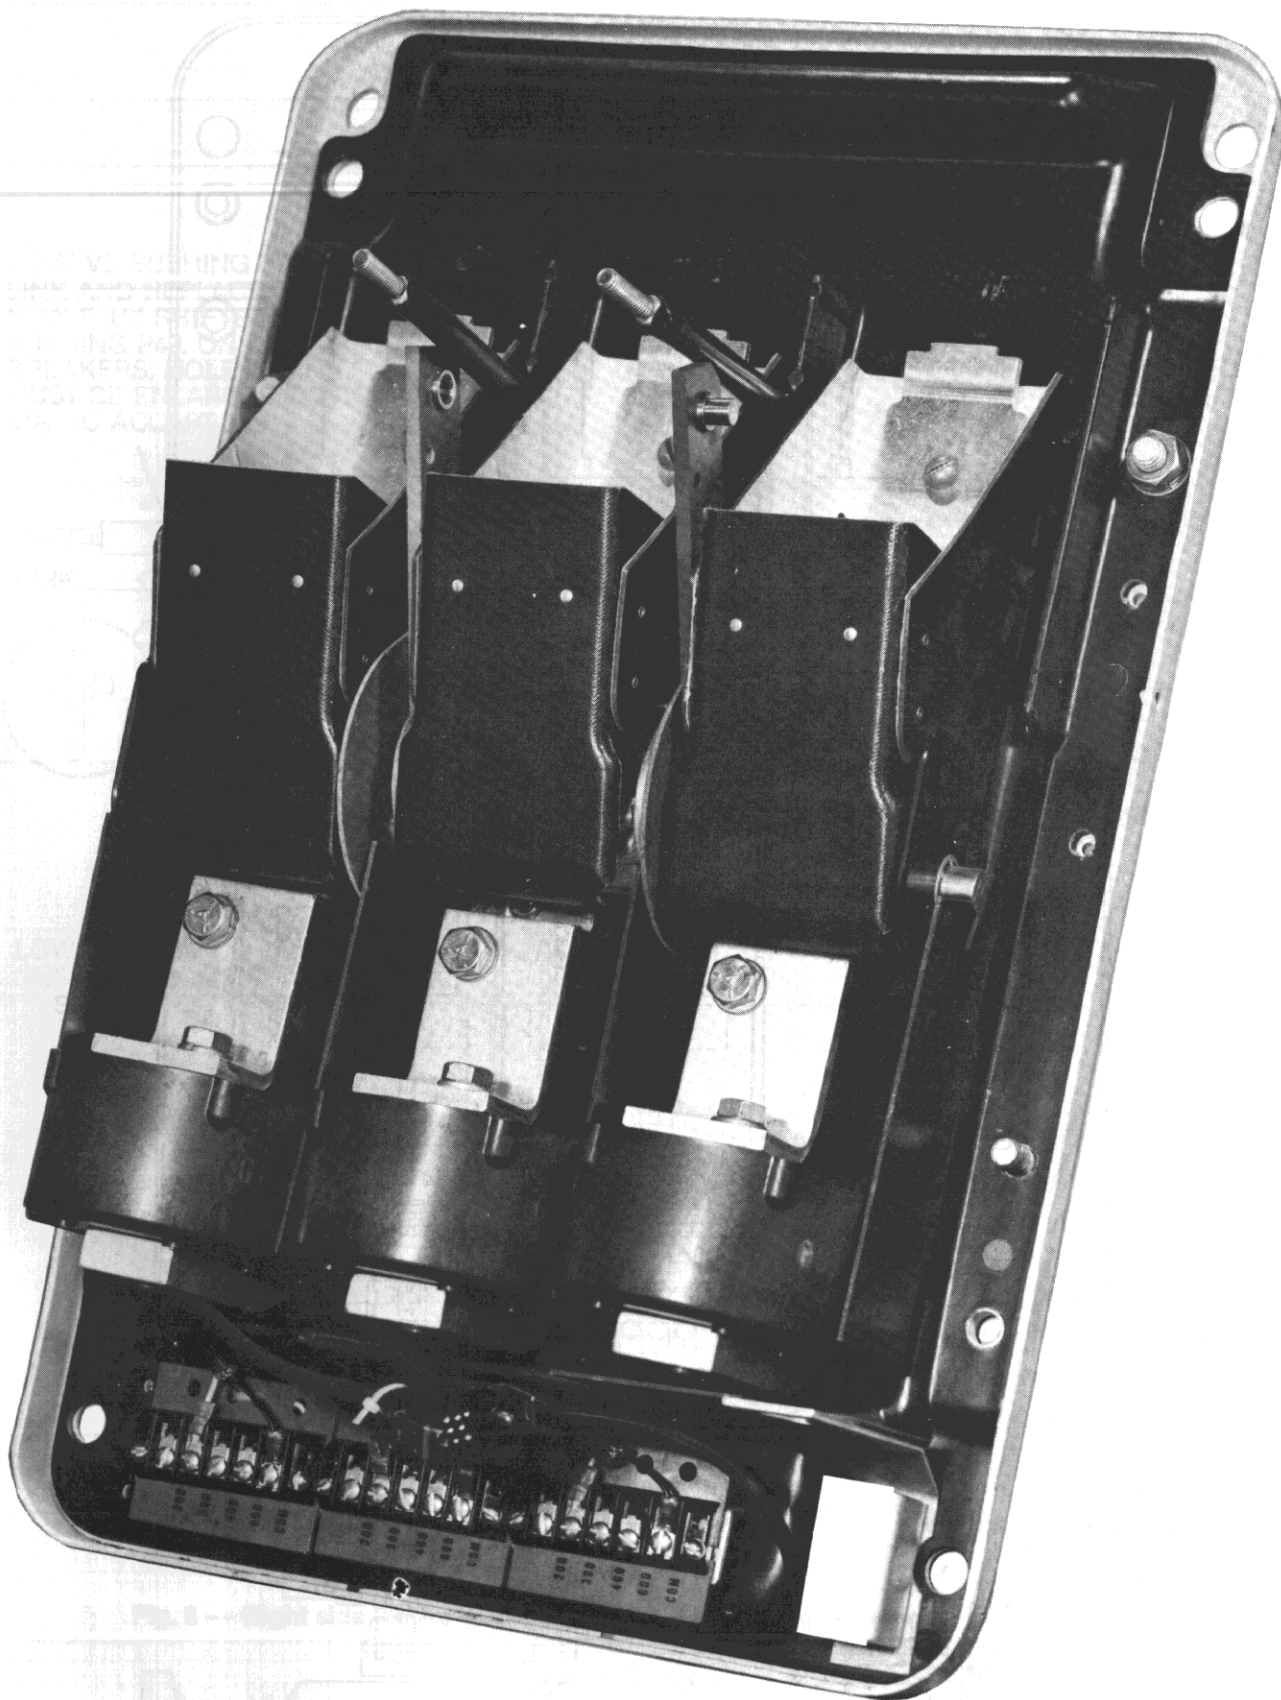
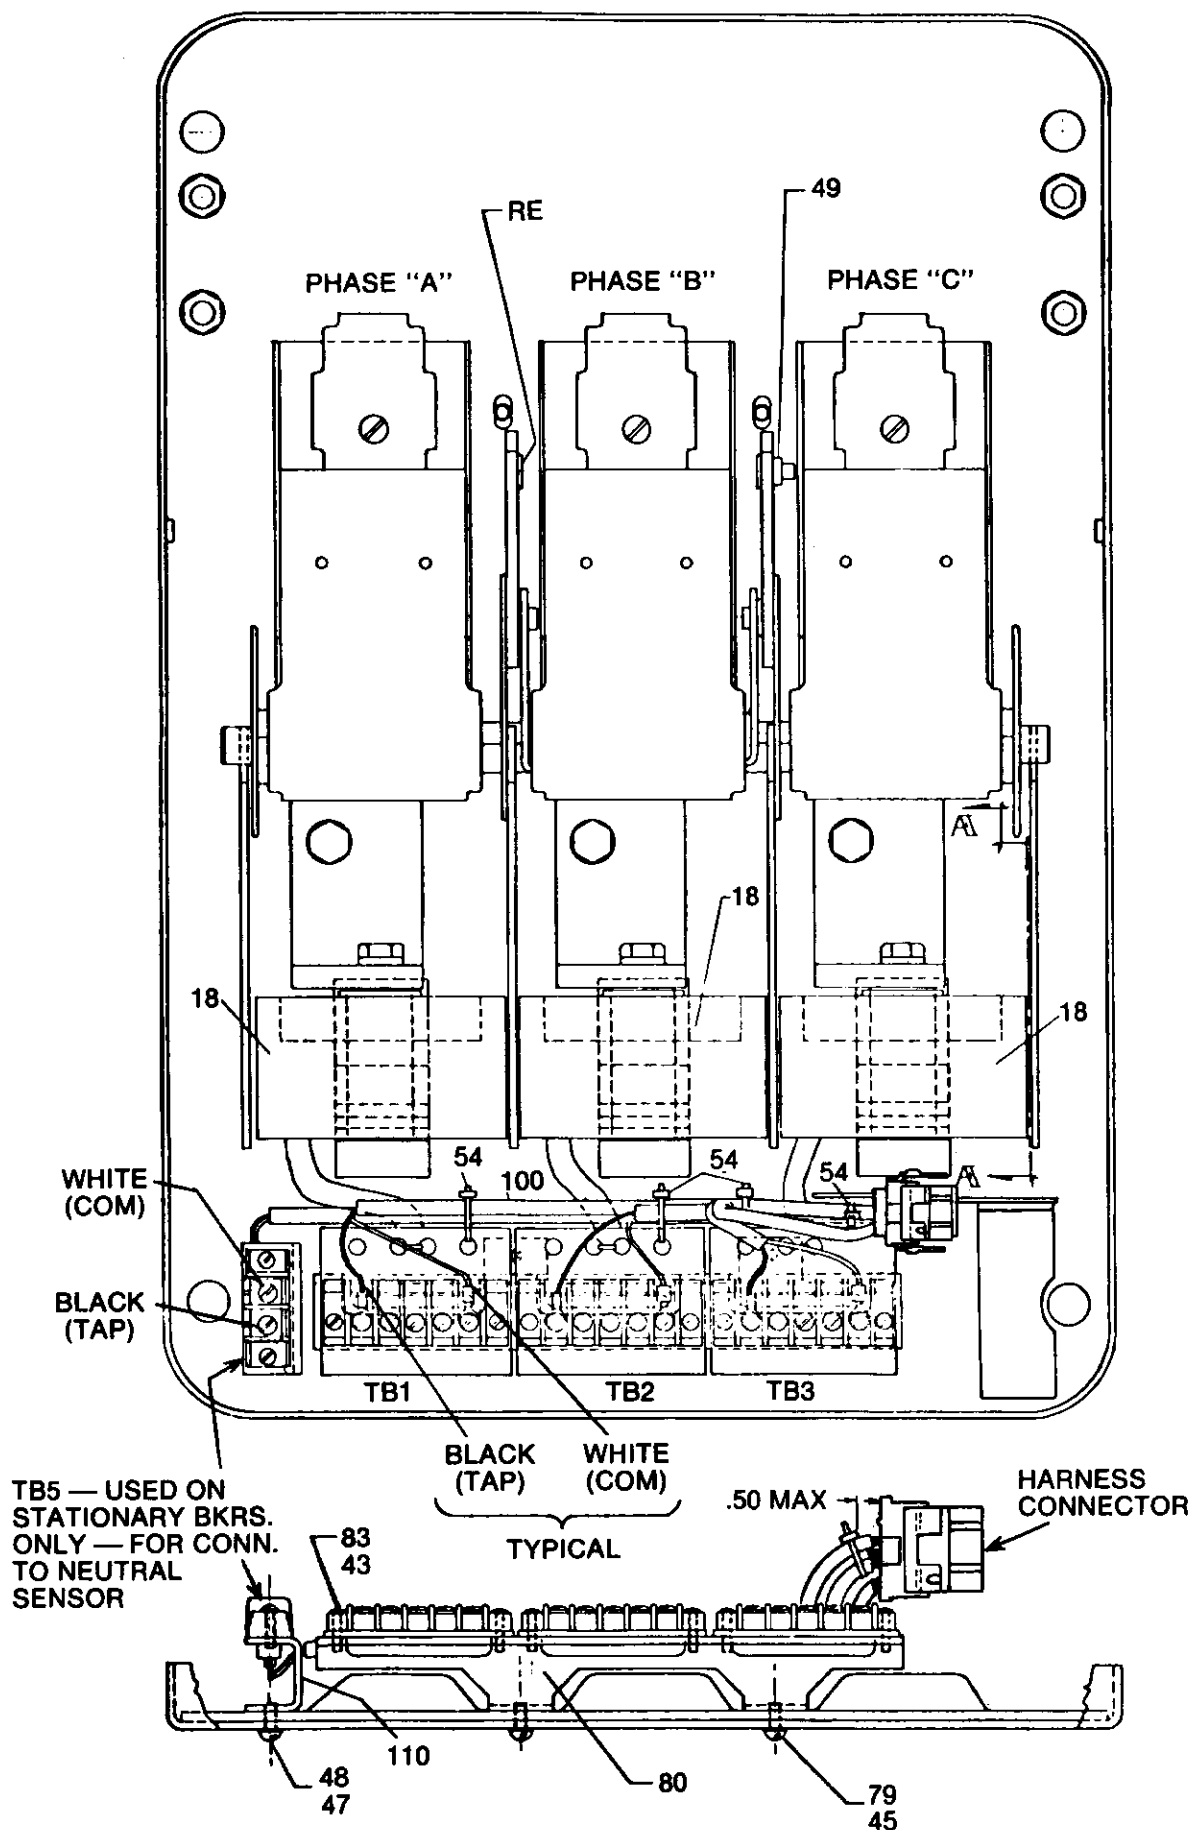
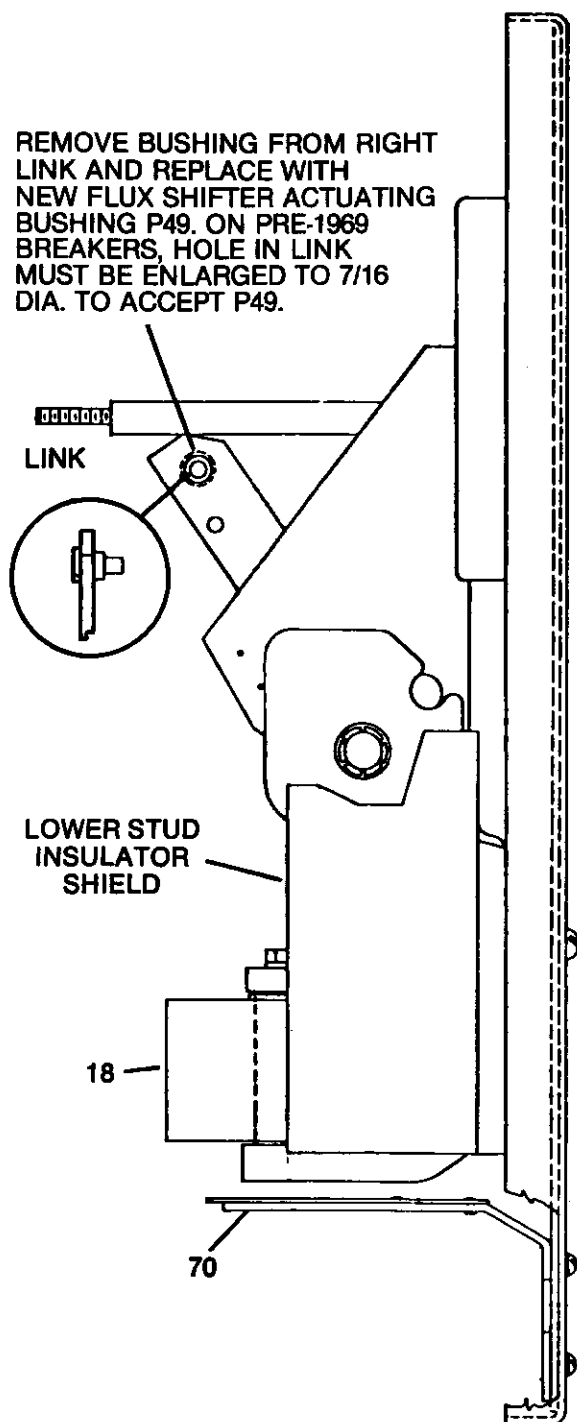

Fig. 4 — AK-25 back frame with MicroVersaTrip® RMS-9 conversion components installed and ready for reassembly to front frame.
Fig. 5 — Back frame assembly
Fig. 6 — Right side view of back frame
2. Assemble and mount the three current sensor (CT) assemblies to the back frame. See Figs. 5, 6 and 7. For each pole, first insert lower copper stud 90 through the back plate and attach it via the mounting screw. Then position CT 18 with its terminals toward the rear and loosely mount it to stud 90 with copper parts 91 and 92. Align the assembly and torque the two 3/8" bolts in strap 91 to 25 ft.-lbs. each to assure proper contact integrity.
3. Install CT terminal board-mounting bracket 80 below the CT's using the (2) 8-32 x 1/2" screws provided. See Fig. 5. Mount terminal boards TB1, TB2 and TB3 to the bracket using the (6) 6-32 x 1/2" screws and washers provided.
6. Install wire harness 100 on back frame and connect per instructions on Figs. 9, 12 or 16 as applicable to the particular breaker type involved. For tie-down and forming details, see Fig. 5. This step completes conversion of the back frame — see example illustrated in Fig. 4.
10. Referring to Fig. 6, install flux shifter actuating bushing 49 in the right hand operating link, enlarging the link hole if necessary. See Fig. 4 also.